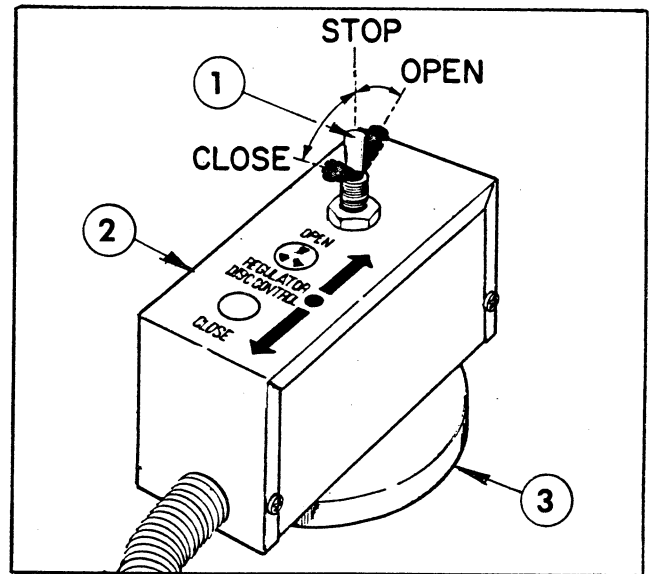

Figure 4
**OPTIONAL ELECTRIC CONTROL SWITCH:** Opens and closes the regulator disc in the Hopper opening, to start or stop the flow of material. Position the toggle switch at the "OPEN" or "CLOSE" position as indicated by the decal on the Control Box. (Fig. 4)